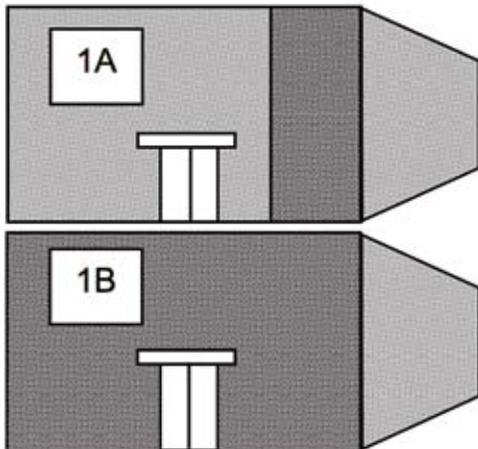

Fig. 1
1. Generally, one should resurface up to an architectural break in the wall such as an aesthetic reveal, change in plane, or change in elevation, to minimize any change in appearance of the resurfaced area compared to an adjacent area (Fig. 1).